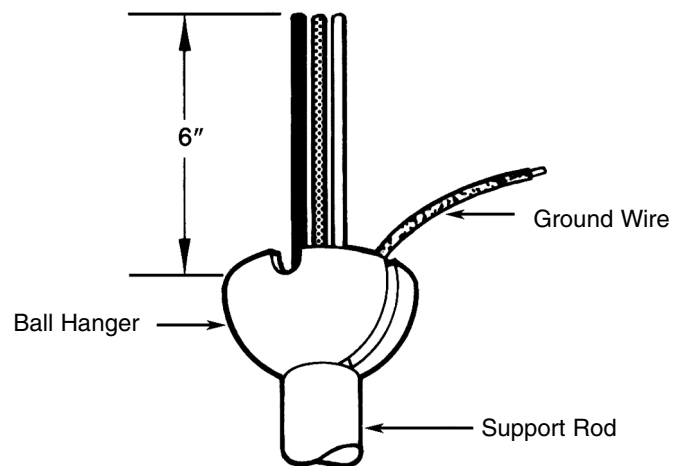

Fig. 8
- ❖ Trim the lead wires, leaving about six inches of each wire extending from the support rod (see figure 8).